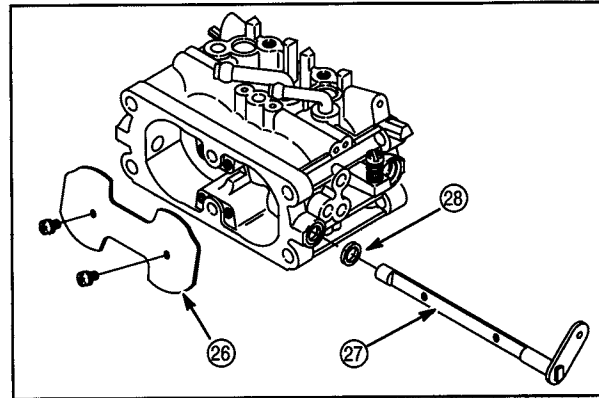

**Fig. 66**
10. Mark throttle plates (24) before removing to ensure reinstallation in the original position, **Fig. 66.**
11. Remove throttle shaft (22), spacer (21) and seal (23).